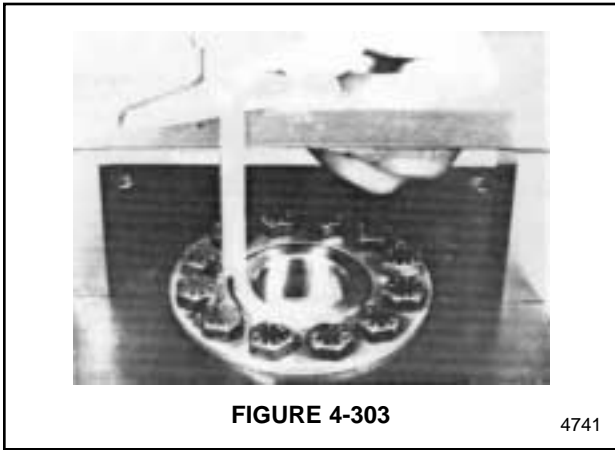

FIGURE 4-303
2. Measure the distance from the drive plate to the drive collar. See Figure 4-303. In this example this distance measured 4.60 mm. This is measurement B.